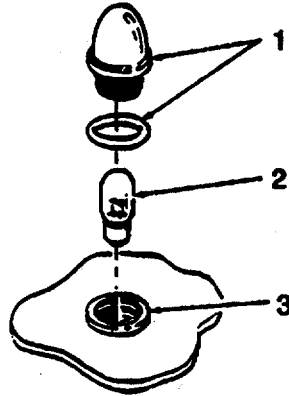

Figure 4-6. Indicator Light Assembly.
- a. Install lamp holder (7) and secure with star washer (6) and nut (5).
- c. Install new sleeving (1) on electrical leads (2).
- d. Solder electrical leads (2) to lamp holder (7).
- e. Slide sleeving (1) over solder connections and heat shrink.
- g. Install lamp (4). and lens assembly (3) into lamp holder (7).
- (1) Open lens assembly (1, Figure 4-6).
- (2) Remove lamp (2) from lamp holder (3).